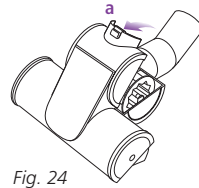

Fig. 24
- 1 Slide the locking latch **(a)** forward and gently tilt brush housing upward to open. **(Fig. 24)**